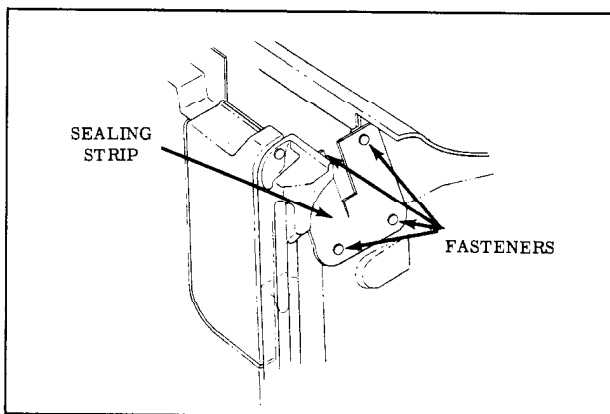

Fig. 17-17 Front Door Lock Sealing Strip (at Belt)
1. Remove snap fasteners securing sealing strip to lock pillar facing of front door and remove strip. (Fig. 17-17)